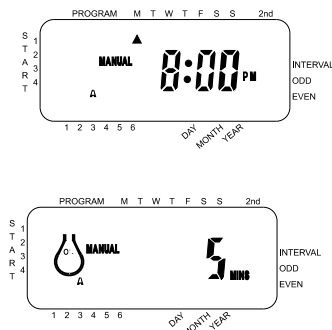

Figure 13: Manual Watering Station 3 for Five Minutes
- To skip a station, press next until the cursor is blinking over the station number you wish to program. (Example: To set station 3 for five minutes, press the manual key; then press the Next key five times to select the manual operation mode and advance to watering for station 3; using the + or - key, set the manual watering duration to five minutes; press Enter.) [See Figure 13]